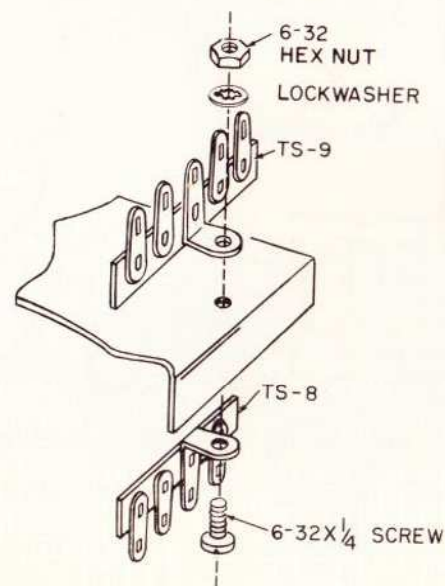

FIGURE 5
- ✓ TS-8, 4-terminal strip and TS-9, 5-terminal strip. See Figure 5. Position TS-9 on top of the chassis and TS-8 on the bottom. Fasten these parts with a 6-32 × ¼" screw, lockwasher, and nut.